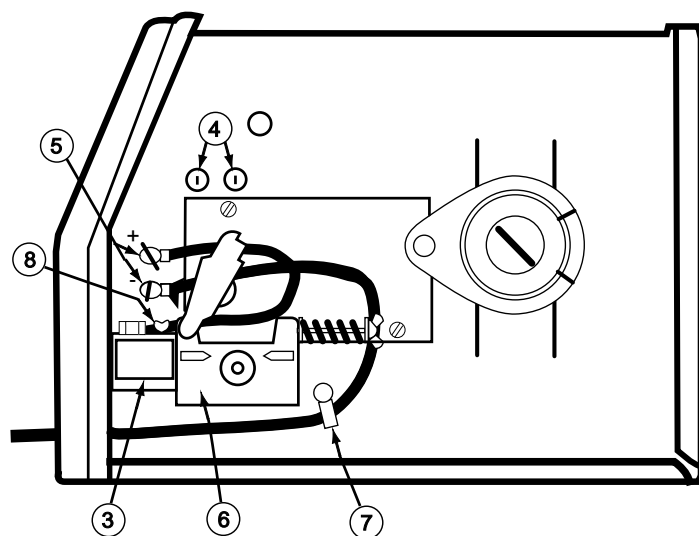

FIGURE A.2
Refer to Figure A.2.
5. **For GMAW Only:** Refer to Figure A..2. To wire for positive electrode polarity. the appropriate configuration for the GMAW (MIG) process use the provided wing nut to connect the work cable's terminal lug to the negative (-) output terminal (5) located above the Wire Feed Gearbox (6). Make sure that both wing nuts are tight.
1. Refer to Figure A.2. Unplug the machine or turn power switch to the OFF "O" position.
2. Pass the insulated terminals of the gun trigger control leads, one at a time, through the Gun Cable and Control Lead Access Slot (2) in the case front. The leads are to be routed under the Wire Feed Gearbox (6) and through the Cable Hanger (7) on the inner panel.
3. Insert the connector on the gun conductor cable through the Gun Cable Access Hole (2) in the WELD-PAK 3200H case front. Make sure the connector is all the way in the brass connector block. Unscrew thumbscrew on the connector block a few turns if gun connector will not insert fully. Rotate the connector so control leads are on the underside and tighten the Thumbscrew (8) in the connector block.
4. Connect the gun trigger control lead terminals to the two insulated 1/4" (6.4 mm) tab terminal connector bushings located below the "Gun Trigger Connection" decal in the wire feed section (4). Either lead can go to either connector. Form the leads so that they are as close as possible to the inside panel.